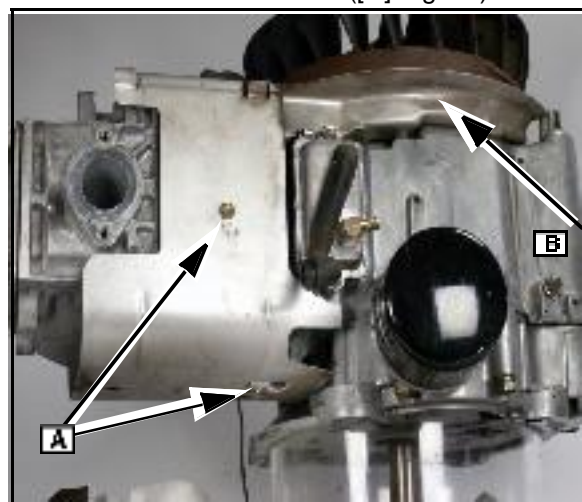

Fig. 21
1. Remove the two bolts ([A] Fig. 21).
NOTE: The blower housing support/baffle plate ([B] Fig.21) must be removed after the flywheel is removed. **SEE SECTION 3- BLOWER HOUSING REMOVAL.**